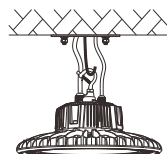

Figure 2
2. Please hang the fixture into the lifting hook or chain and protect it from falling. (Figure 2)